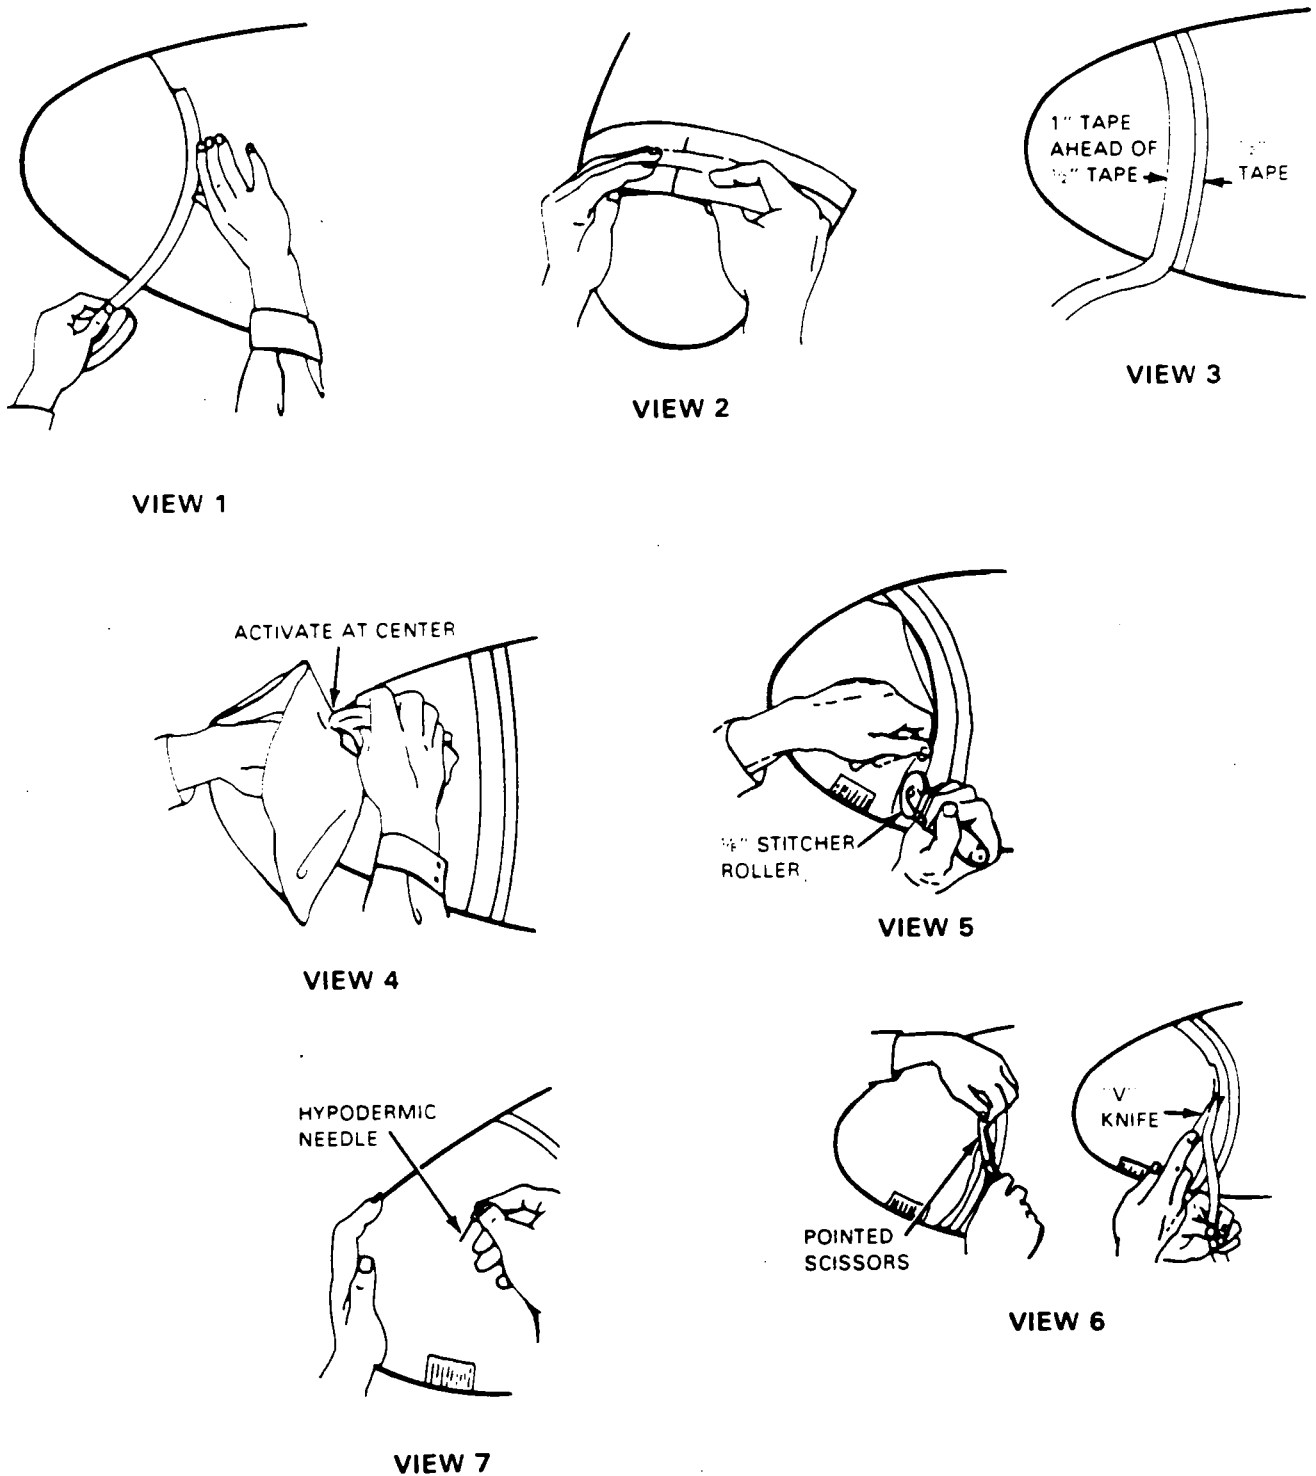

Figure 51-11. Installation of Radome Erosion Shield
2. Dry fit the erosion shield to the cleaned structure. Position identified "top" surface of erosion shield on top surface of structure. Then adjust each side to provide equal distance from structure attachment line. Smooth out any wrinkles. Apply ½" wide masking tape to the structure, next to the shield's trailing edge. (Refer to Figure 51-11, View 1.)
3. Establish a reference line at the top and draw a pencil mark on the masking tape to correspond with the center line mark on the inside of the erosion shield. Repeat at bottom and remove erosion shield from structure. (Refer to Figure 51-11, View 2.)
4. To establish a trim line apply 1" wide masking tape to butt against forward edge of the ½" wide tape previously applied. Leading edge of 1" tape will now provide the final trim line. (Refer to Figure 51-11, View 3.)
8. Fold back the trailing edge and use a clean, lint-free cloth moistened (not dripping) with Toluol, to activate the cement on the nose or leading edge of the shield. Activate mating areas, not to exceed one square foot at a time. Avoid excessive rubbing which could remove cement from surfaces. (Refer to Figure 51-11, View 4.)
11. Using a 2" sponge roller, go over entire surface, applying pressure and rolling from the center line or leading edge outward to trailing edge of shield. With steel stitcher roller, roll thoroughly at trailing edge line where shield meets the 1" masking tape. (Refer to Figure 51-11, View 5.)
12. To trim the erosion shield make initial cut into material overlapping the tape, using scissors held at an angle. Using a "V" knife, or pair of scissors with blades opened to form a "V," neatly trim off excess shield material overlapping edge of 1" masking tape, applying light, uniform tension to trim material. (Refer to Figure 51-11, View 6.)
13. If an air pocket or blister is formed, release air by inserting a hypodermic needle at 45° angle or less, pointed toward center or leading edge. Apply finger pressure on blister to remove air and reroll using steel stitcher. Remove all masking tape and clean excess cement from structure using MEK, wiping away from the trailing edge. Prevent solvent from running under and loosening edges of erosion shield. Restitch shoe at its trailing edge, using 1/8" steel stitcher. Inspect complete trailing edge to see that it is firmly bonded. (Refer to Figure 51-11, View 7.)